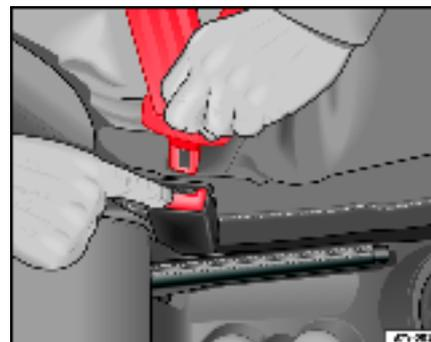

Fig. 16 Removing latch plate from buckle
- Press the red button on the belt buckle ⇒ page 27, fig. 16. The latch plate is released and springs out ⇒ ⚠.